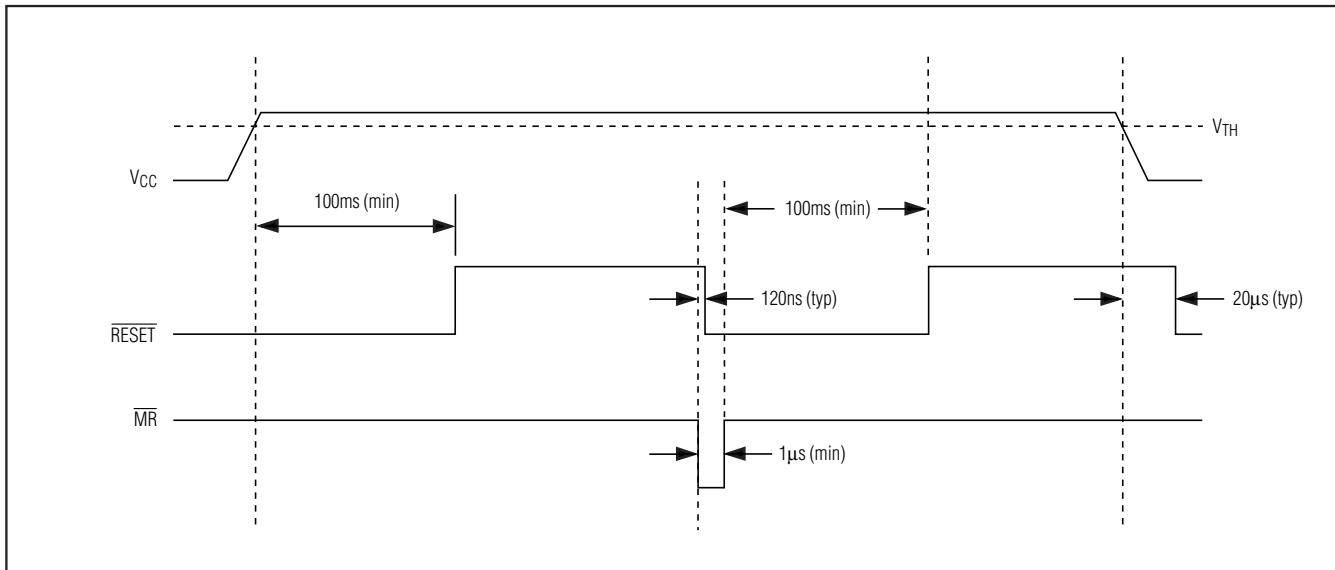

Figure 5. RESET Timing Relationship
falls below the preset threshold or when the manual reset input (MR) is asserted. The RESET output remains asserted for at least 100ms after VCC has risen above the reset threshold and MR is deasserted (Figure 5). For noisy environments, bypass VCC with a 500pF (min) capacitor to ensure correct operation.
Many μP-based products require manual reset capability to allow an operator or external logic circuitry to initiate a reset. The manual reset input (MR) can connect directly to a switch without an external pullup resistor or debouncing network. MR is internally pulled up to VCC and, therefore, can be left unconnected if unused. MR is designed to reject fast, negative-going transients (typically 100ns pulses), and it must be held low for a minimum of 1μs to assert the reset output (Figure 5). A 0.1μF capacitor from MR to ground provides additional noise immunity. After MR transitions from low to high, reset will remain asserted for the duration of the reset timeout period, at least 100ms.